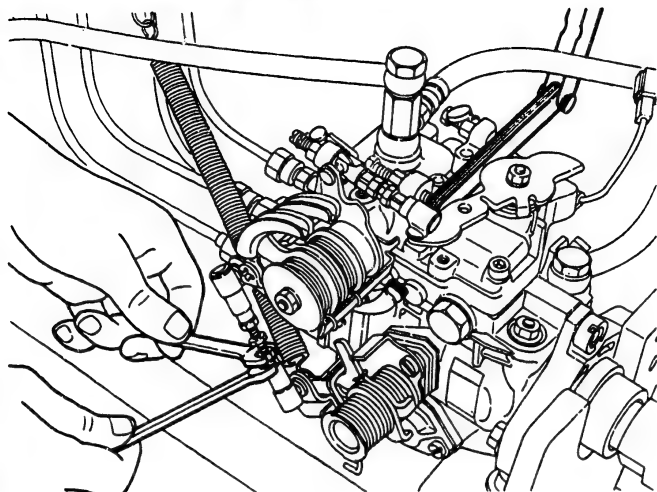

Fig. 187 Setting the adjusting rod length
5. After installing the other connecting rod (284) to connect the M-C S.D. lever and side link lever (80), adjust the connecting rod's length so that the distance between the tip of the idle adjusting screw (67/15) and the control lever (72) is as specified. (Fig. 187)